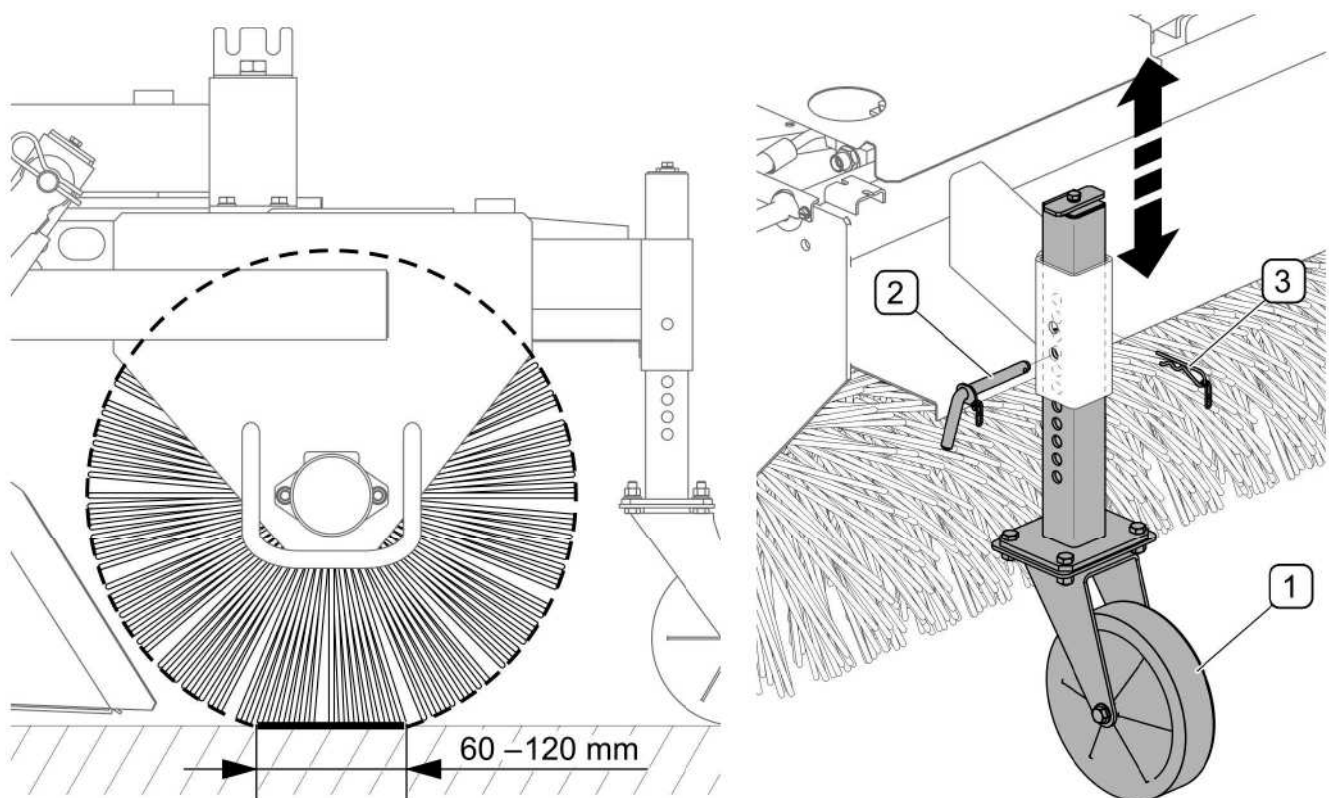
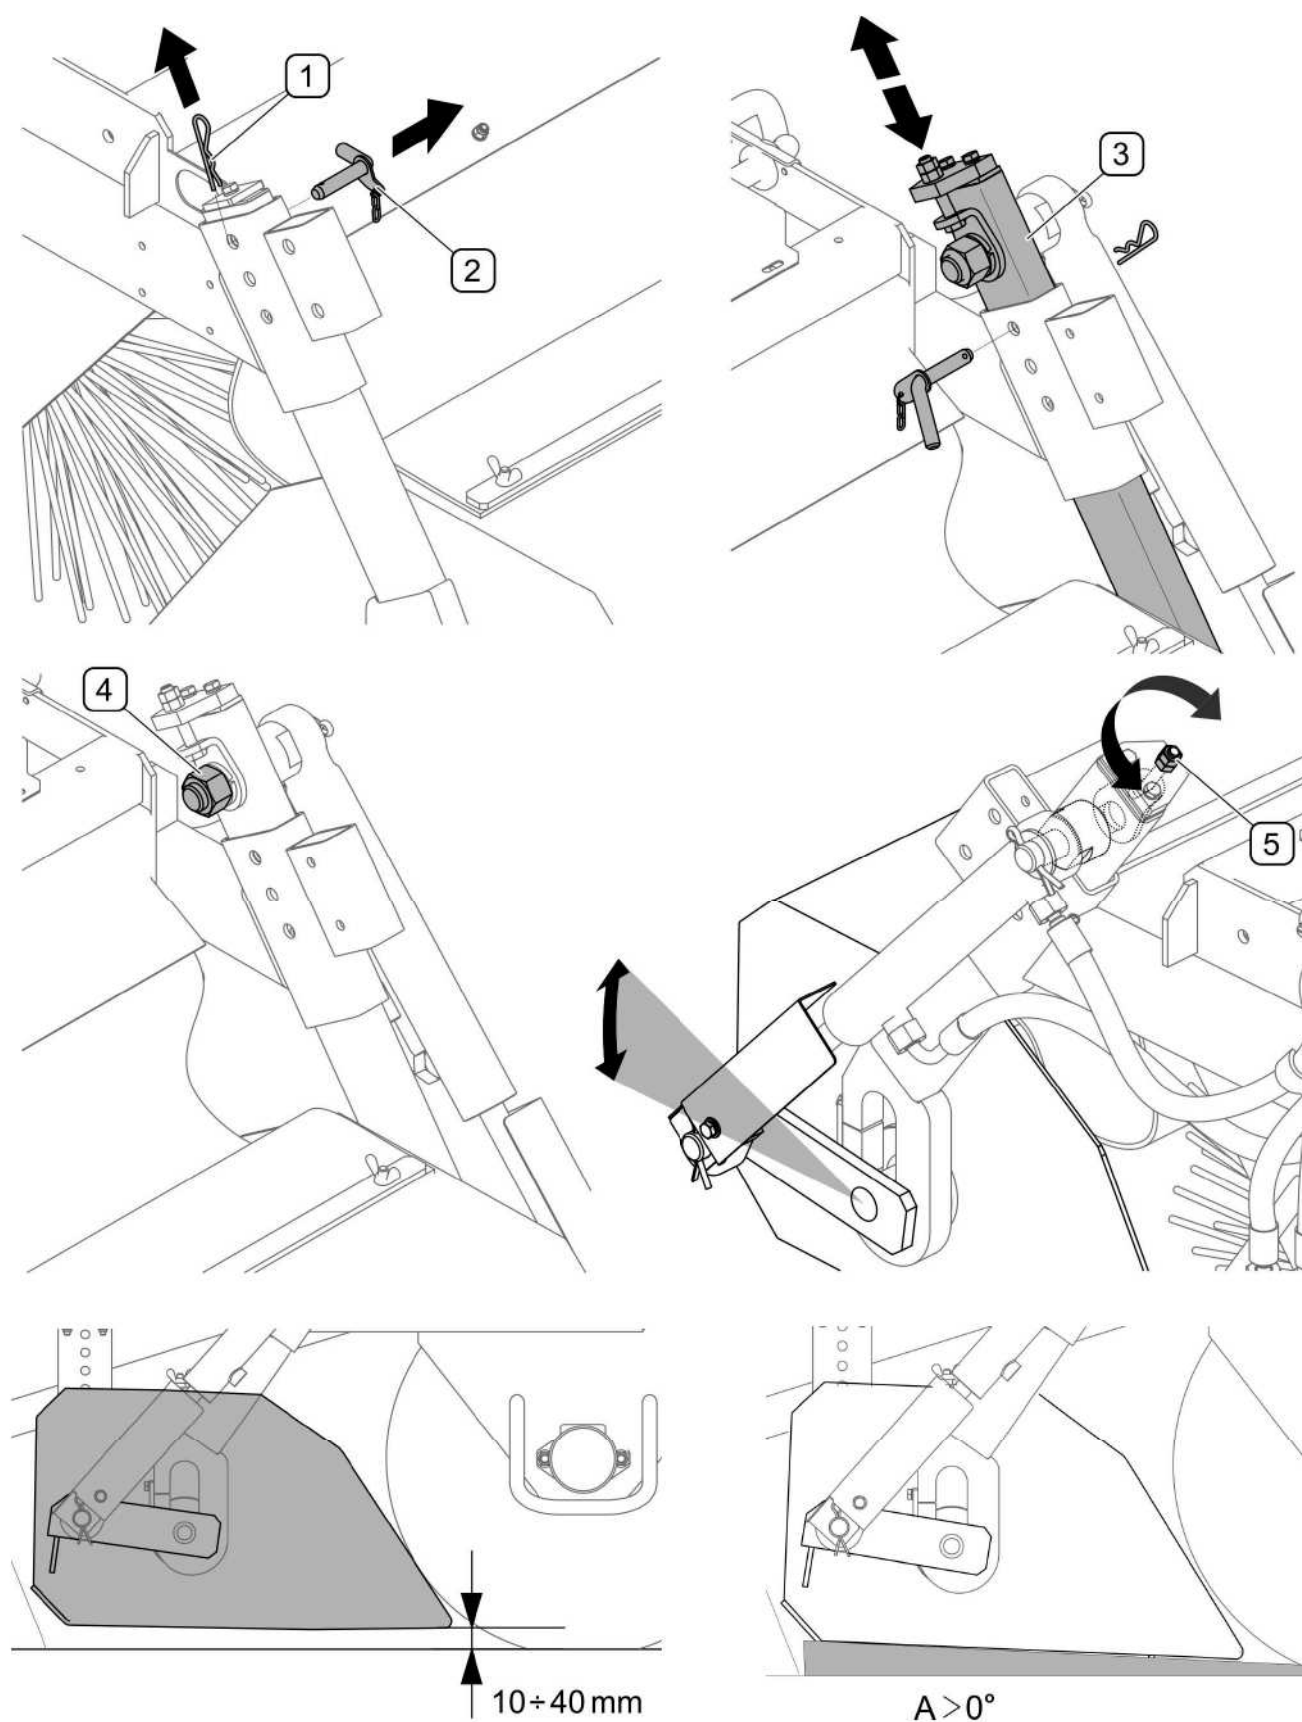

FIG. 5.1 Sweeping roller brush pressure adjustment
FIG. 5.2 **Adjusting the waste tank**
Adjustment of the sweeping roller brush should always be carried out in conjunction with adjustment of the waste tank. Sweeping roller brush must be adjusted depending on its wear. Sweeping roller brush ground contact surface should be in the range from 60 to 120 mm (FIG. 5.1). The pressure can be set individually depending on the degree of ground contamination.
Pressure is adjusted by changing the position of jockey wheels (1) in guides (FIG. 5.1) as follows:
- Remove the R-clip (3) and cotter pin (2),
- raise or lower the wheel (3) in the guide so that the holes are coaxial,
- put cotter pin (2) in the corresponding hole and secure with R-clip (3),
Adjust the waste tank (FIG. 5.2) after adjusting the pressure of the sweeping roller brush (FIG. 5.1) and adjusting the waste tank inclination angle. Adjust the height of the waste tank as follows:
To adjust waste tank tilt angle (FIG. 5.2) move the upper anchorage point of the waste tank tipping cylinder on the left side of the sweeper. The adjustment should be performed as follows: